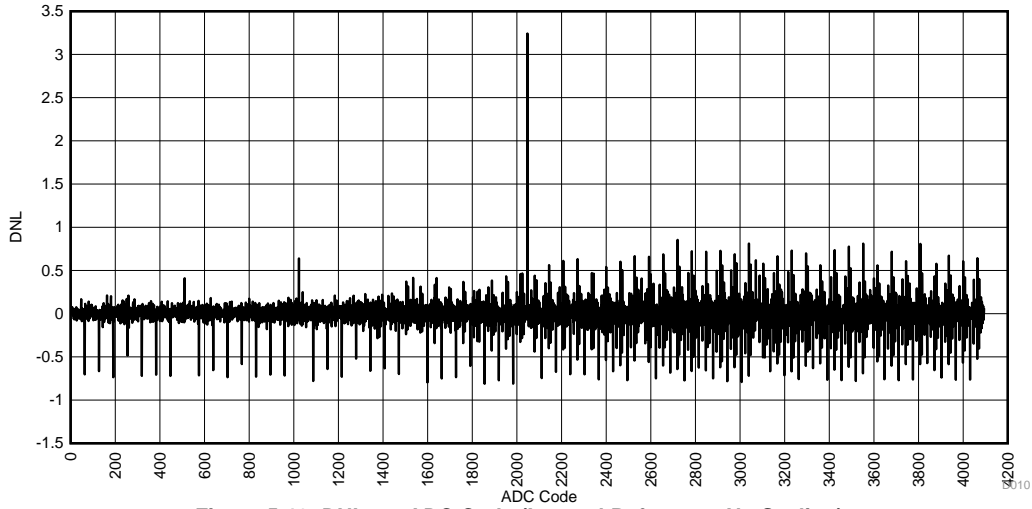

Figure 5-13. DNL vs. ADC Code (Internal Reference, No Scaling)
(1) Using IEEE Std 1241™-2010 for terminology and test methods.
(2) Input signal scaled down internally before conversion, as if voltage range was 0 to 4.3V
(3) No missing codes. Positive DNL typically varies from +0.3 to +3.5 depending on device, see Figure 5-13